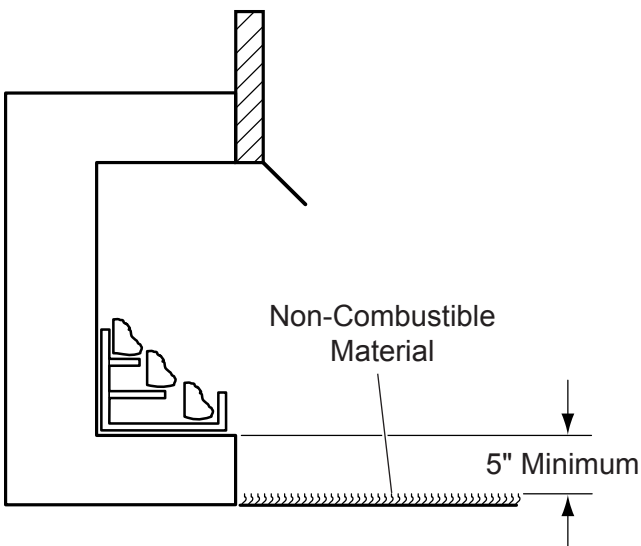

Figure 6 - Minimum Clearance above Combustible Flooring
5. **Floor clearance:** This inner chamber firebox floor must be installed at least 5" above any combustible flooring material, such as carpeting or asphalt tile, which is closer than 14" to the base of the firebox. See Figure 6.